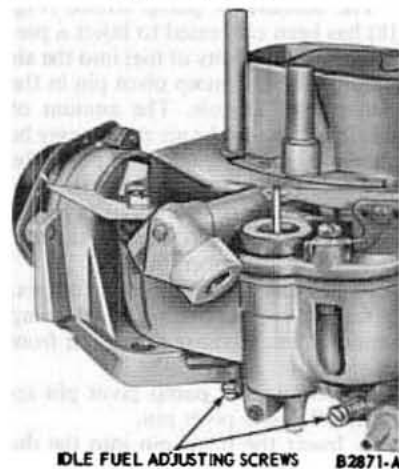

Fig. 19—Idle Fuel Adjustments—Autolite 4-V (4300)
The idle fuel mixture and idle (hot engine) speed adjustments for the Autolite 4-V (4300) carburetor are shown in Figs. 19 and 20.
1. Turn the idle air adjusting screw (Fig. 19) clockwise (inward) to decrease engine rpm and counterclockwise to increase engine rpm.